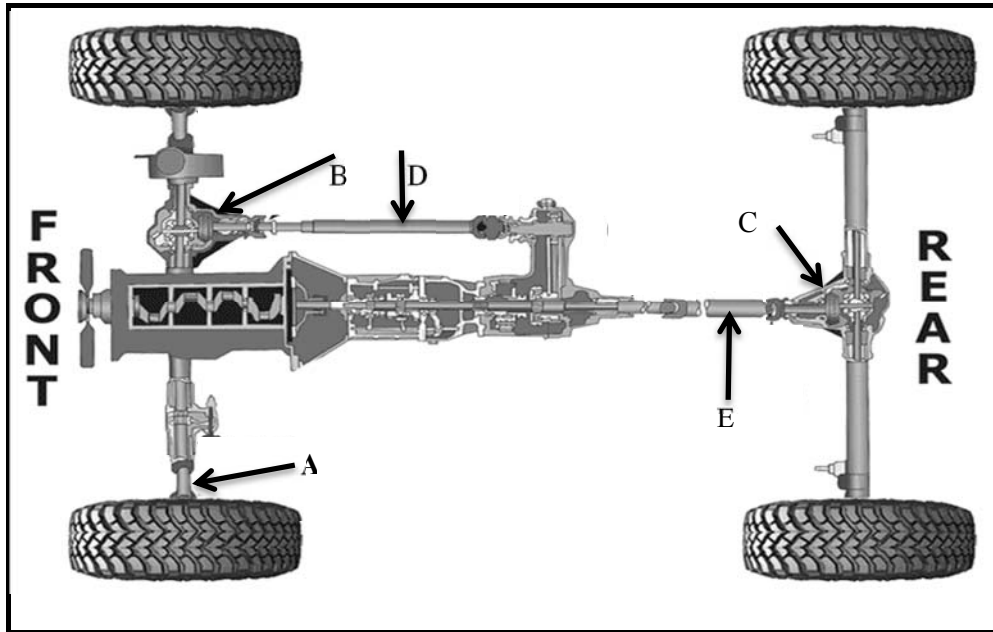

FIGURE 8.5
Study FIGURE 8.5 above and answer the following questions:
- 8.5.1 Identify the layout of the drive system shown in FIGURE 8.5 above. (1)
- 8.5.3 What is the purpose of the driver system shown in FIGURE 8.5? (2)